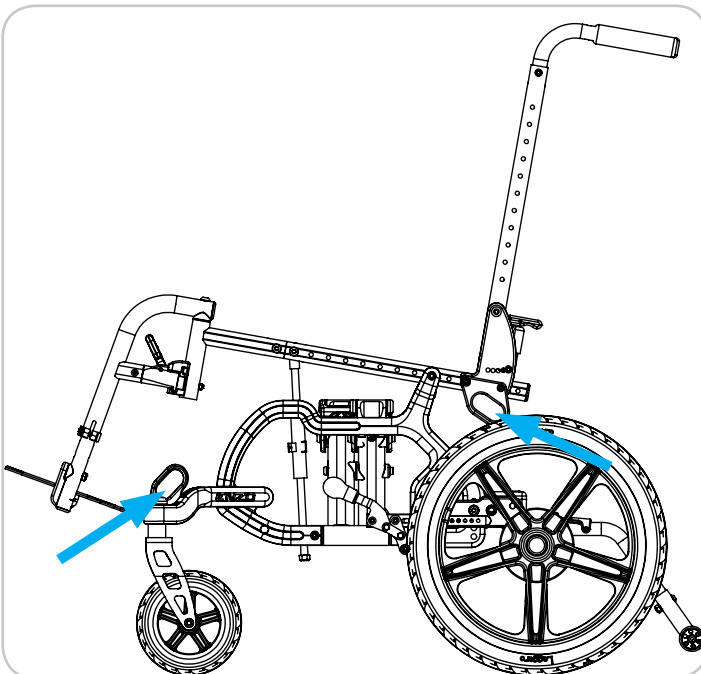

Figure 36
- For approved transit tie-down locations and location of belt/harness attachment pin, see Figures 36 and 37.